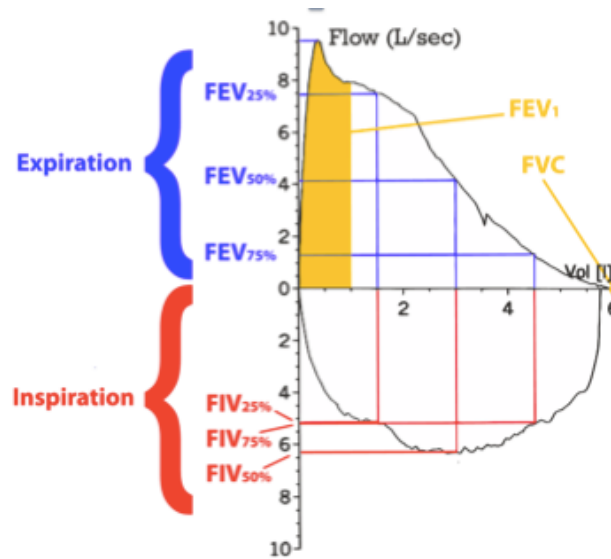

Figure 4: A typical flow vs volume curve for expiration and inhalation.
9. Create a Flow vs Volume Graph - the X-axis will be Volume, and the Y-Axis will be Flow. This will be an X-Y graph, rather than a standard chart. Then attach the flow rate and the Volume to this. The result you see during a forced exhale should look like the top part of the graph in Fig. 4. What does this chart tell you about the